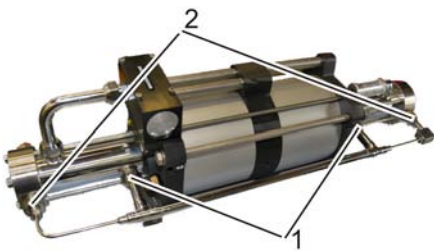

Fig. 56: Removing the cooling pipe
7. ➔ Undo threaded union of cooling pipe from both high pressure components (Fig. 56/2) and from inlet connections (Fig. 56/1) and remove cooling pipe.